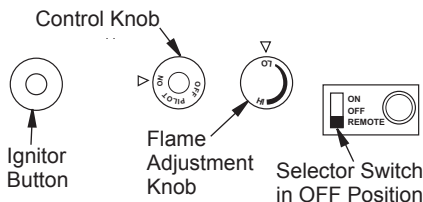

Figure 32- Control Knob and Ignitor Button Location
4. Press in and turn control knob clockwise  to the OFF position (see Figure 32, page 23).
5. Wait five (5) minutes to clear out any gas. Then smell for gas, including near the floor. If you smell gas, STOP! Follow B in the safety information, page 22. If you don't smell gas, go to the next step.
6. Press in and turn control knob counterclockwise  to the PILOT position. Press in control knob for five (5) seconds (see Figure 32).